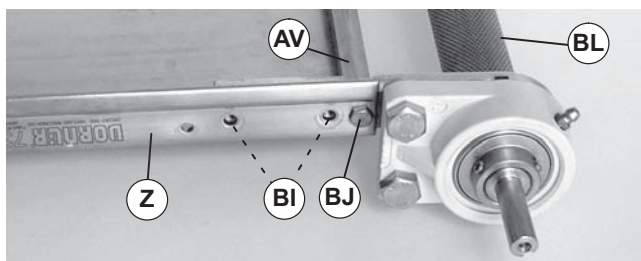
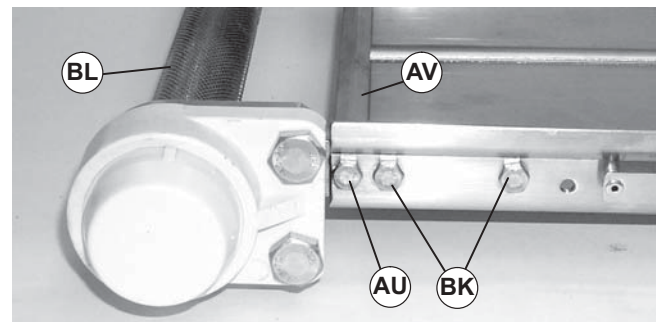

Figure 34
Figure 35
Two screws (Figure 34, item BI) were removed in step 1.
If conveyor is in the upright position, cross support post (AV) will not be secure and may drop when screws (Figure 34, item BJ) and (Figure 35, item AU) are removed.
2. Remove screw (BJ) from conveyor (Z) and cross support post (AV).
3. Remove screw (Figure 35, item AU) and cross support post (AV) from conveyor (Z) and drive spindle assembly (BL).
For a conveyor with a Heavy Load Bottom or Top Gearmotor Mounting Package, the two screws (Figure 35, item BK) were removed in step 1.
If conveyor is in the upright position, drive spindle assembly (Figure 35, item BL) will not be secure and may drop when screws (Figure 34, item AU, BJ and BK) and (Figure 35, item AU, BJ and BK) are removed.
4. Remove two screws (Figure 35, item BK) and drive spindle assembly (BL) from conveyor (Z).
3. Position drive spindle assembly (Figure 35, item BL) on conveyor (Z) and loosely secure with two screws (BK).
4. Install cross support post (Figure 35, item AV) and secure with two screws (Figure 34, item BJ) and (Figure 35, item AU). Tighten screws to 33 in-lb (3.7 Nm).